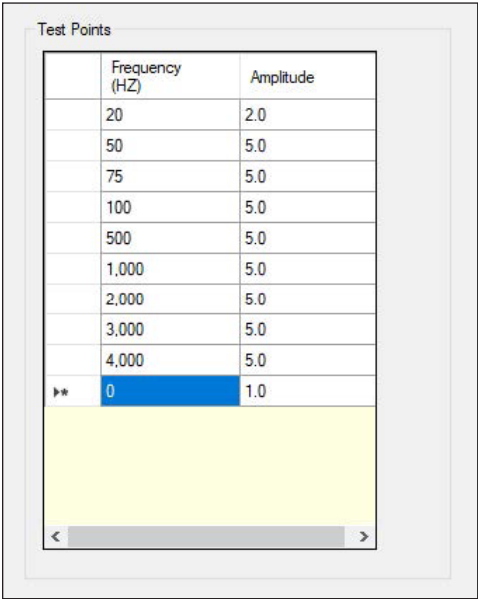

Figure 90. Add new test point values
- 1. Enter the new test point values into the blank row at the bottom of the Test Points table (Figure 90).